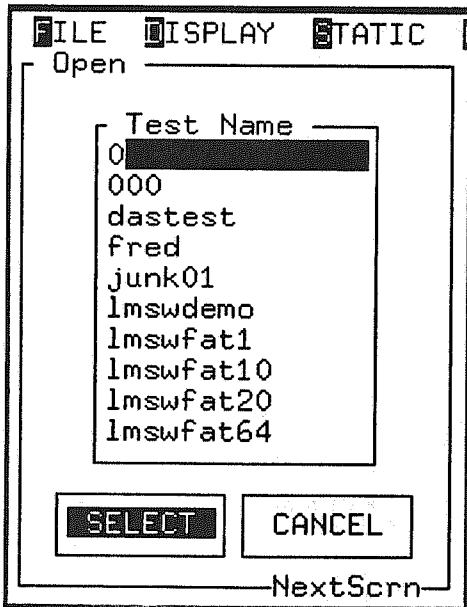

Figure 2-6 Open Screen
- Step 1:** Access the File menu, Open option. The Open Test screen is displayed, Figure 2-6. The dialog box on this screen has one input field and two action boxes. The SELECT action box is the default.